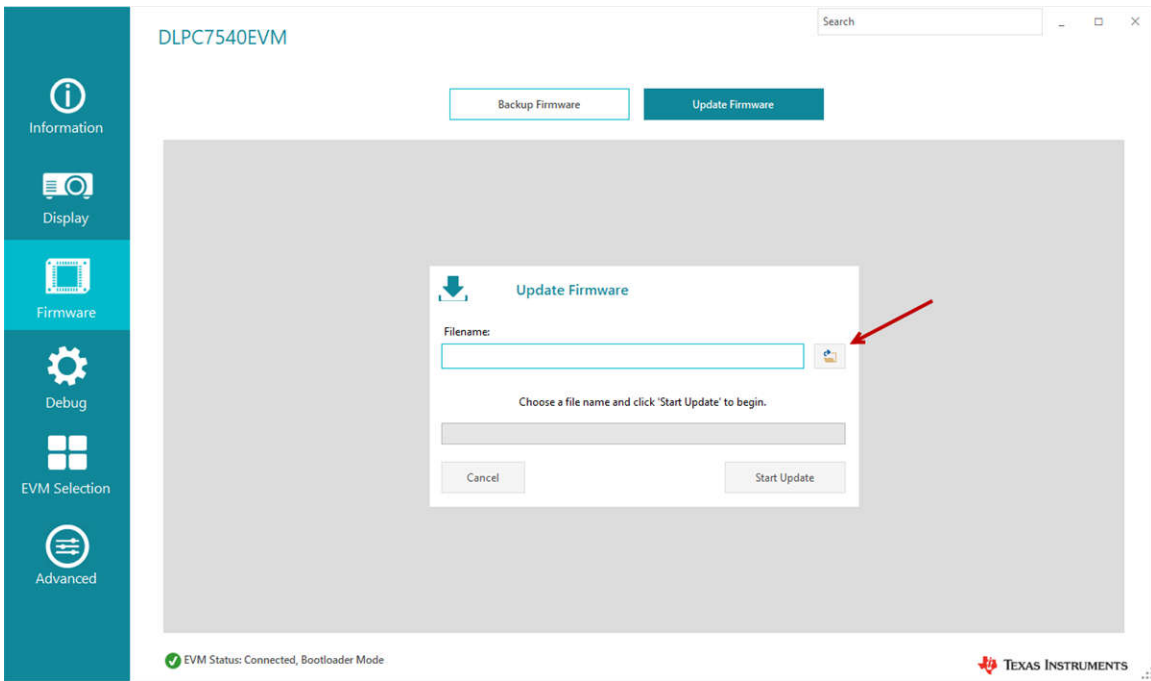

Figure 3-4. Loading the Flash Image
- a. Go to Firmware screen, select Update Firmware tab. Click on the folder icon to browse for the applicable firmware depending on the actual DMD that is connected to DLPC7540EVM. Once firmware image file is selected, click on *Start Update*; see Figure 3-4.